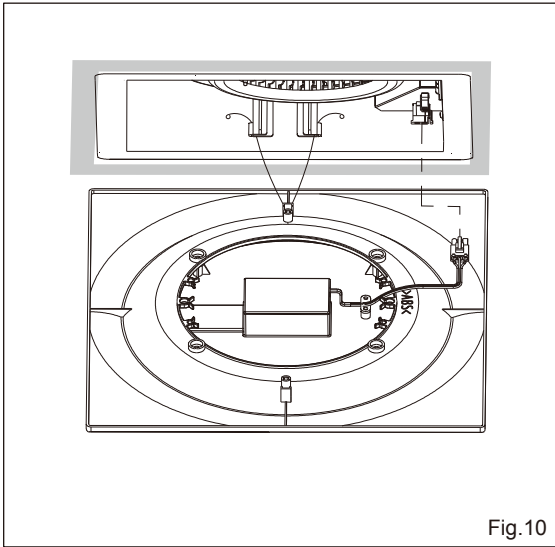
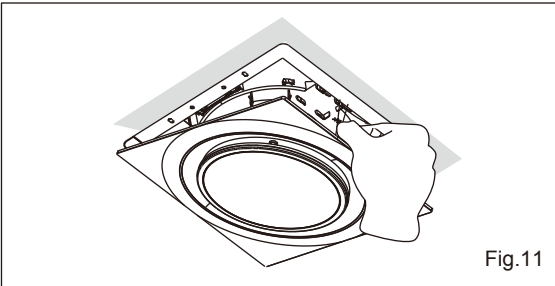

Fig.10
Fig.11
2. The claw of connector must be secured to the rib completely. (Fig.10)
- Insert the grille mounting spring on the wiring side into the slot. (Fig.10)
- Insert the plug connector into the housing of the lighting unit and insert the other mounting spring into the slot as shown and mount grille to fan body. (Fig.10, Fig.11)